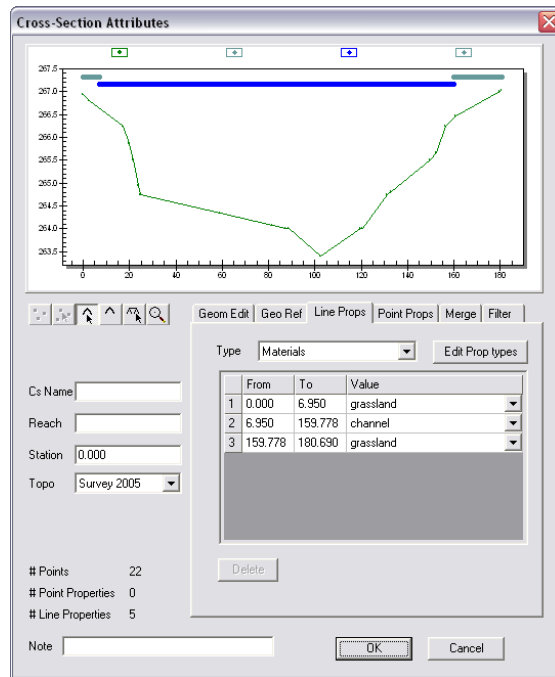

Figure 11 Cross Section Attributes Dialog
3. This dialog includes a plot of the cross-section with several tools to edit the cross-section data. Figure 11 is an example of the dialog. In the *Geom Edit* tab, you can edit the coordinates which define the cross-section. The edits can be done graphically in the plot or by editing the spreadsheet. The x, and y coordinates represent the location of the cross-section in plan view and are ignored by TUFLOW. The d value is the distance along the cross-section from the left bank towards the right bank. The z value is the elevation of the point.